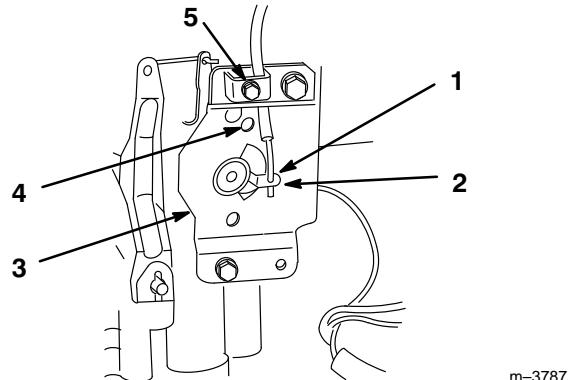

Figure 7
1. Place throttle control lever in FAST detent position. (Fig. 7).
3. Hook wire Z-bend into hole of speed control lever (Fig. 7).
4. Loosen cable clamp screw allowing cable installation, but do not tighten (Fig. 7).